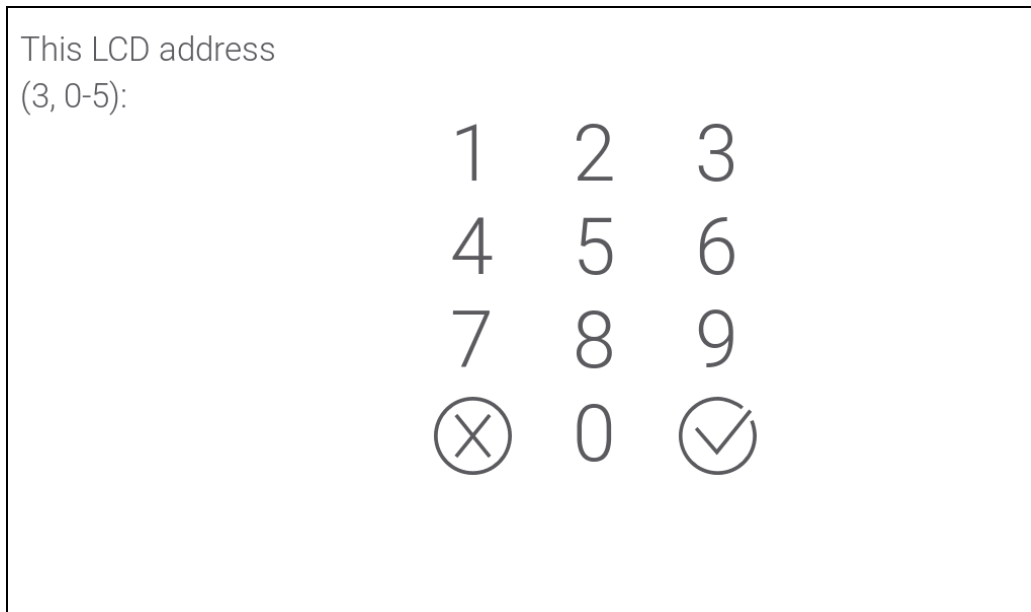

Fig. 17. Address setting.
- Tap    . The “0.Keypads addr.” function will start. All wired keypads will display the message: “This LCD address (n, 0-5)” [n – keypad address; 0-5 – range of supported addresses] (Fig. 17).